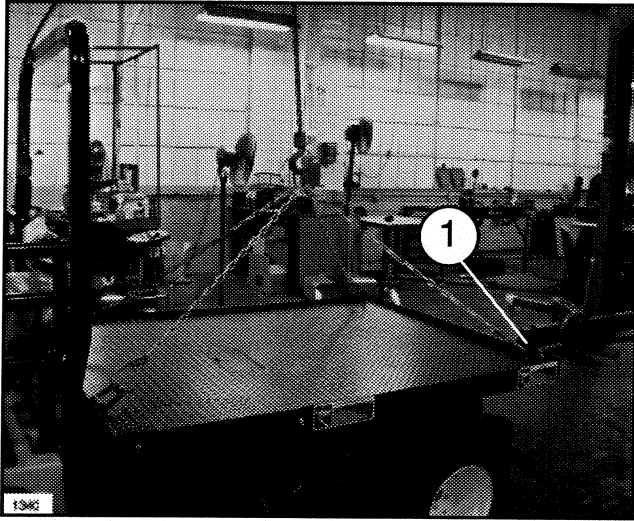

Fig 3
4. DO NOT OVERLOAD THE VEHICLE. Never exceed maximum Operator and Pay Load Capacity of 1800 lb and maximum Gross Vehicle Weight of 4000 lb. Failure to position loads carefully can result in their shifting or tipping over. Distribute loads evenly, as low as possible, with center of gravity forward of rear axle. Secure load using Lifting Lugs (Figure 3).
H. Lift the cargo bed from four corners evenly from the vehicle's frame, using Lifting Lugs as shown in Figure 3, and set aside.